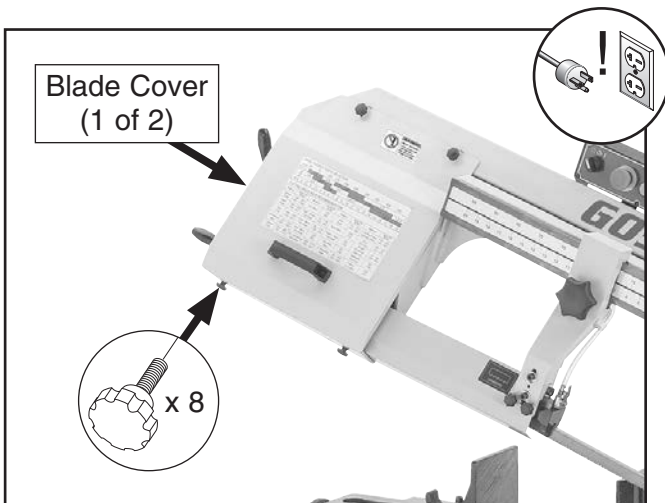

Figure 30. Location of blade covers and knobs.
3. Remove (2) blade covers by loosening (8) knobs shown in **Figure 30**.